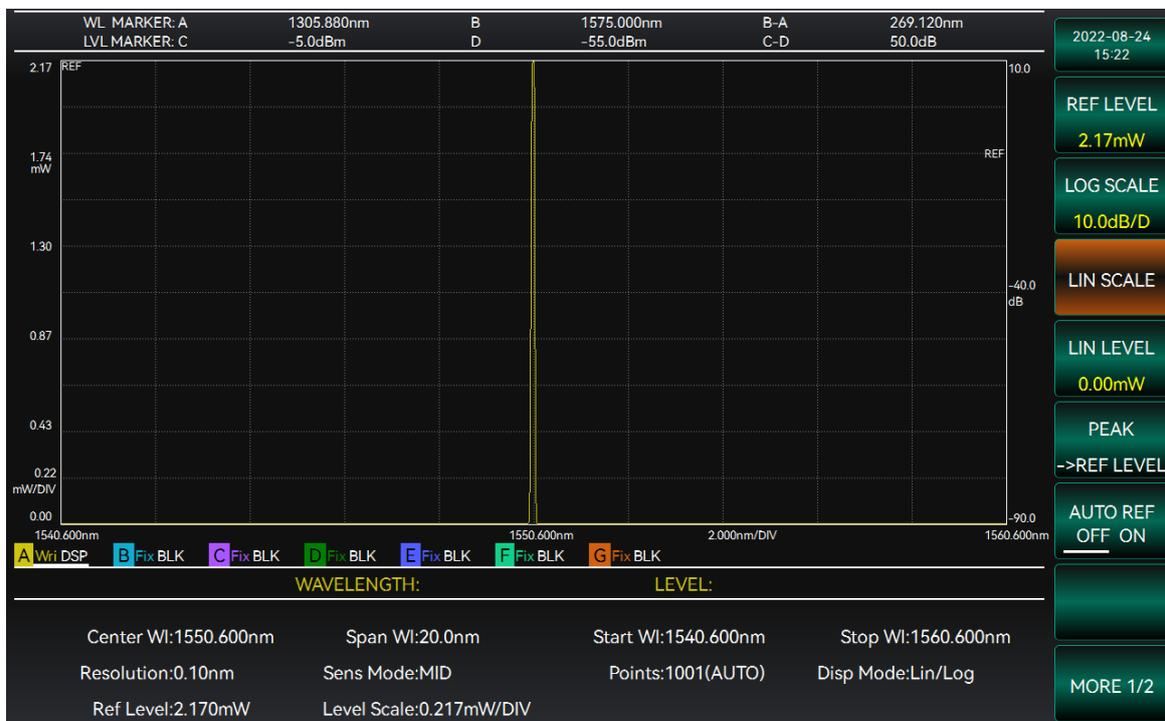

Figure 3-21 Setting linear scale interface
2. Select [LinDisp] and enter the linear scale value via the knob or number keys to complete the setting, as shown in Figure 3-21.